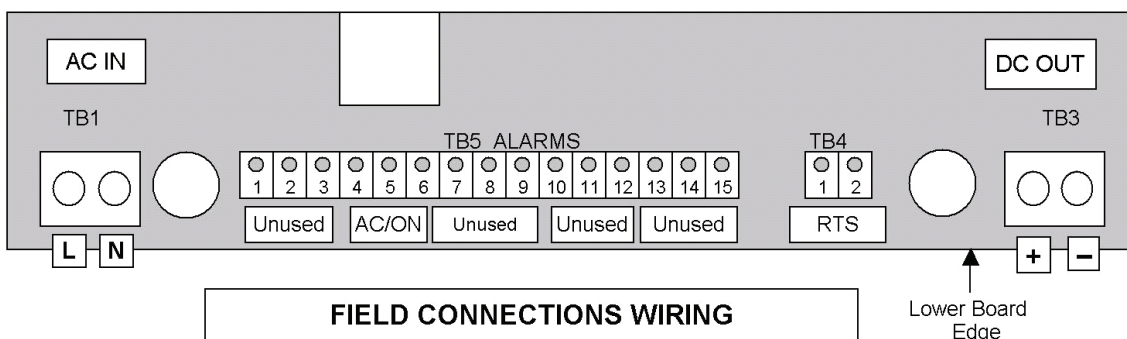

FIGURE 2A
- D. Connect the DC output conductors to TB3. Make the connections in the order shown in Figure 2A (negative ground) or Figure 2B (positive ground). The terminals accept 10 through 6 AWG conductors.